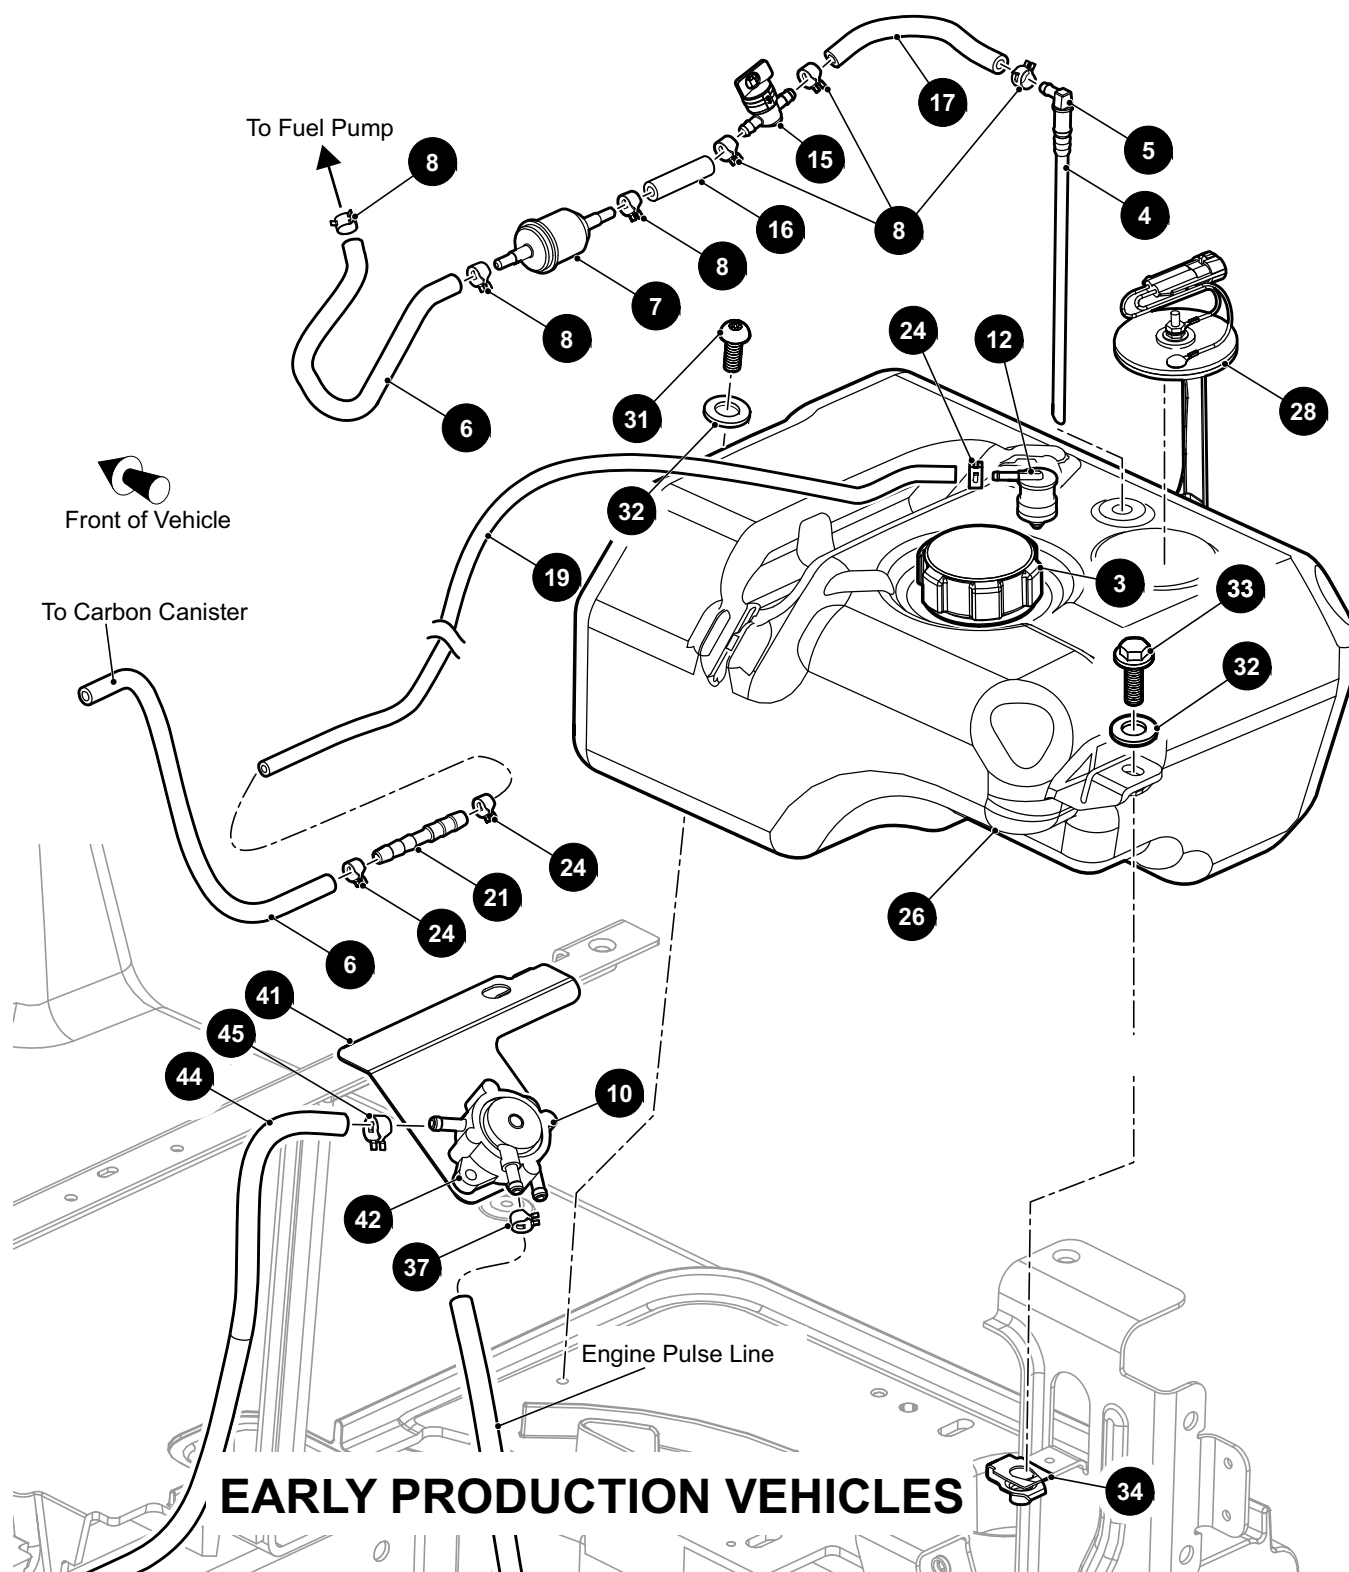
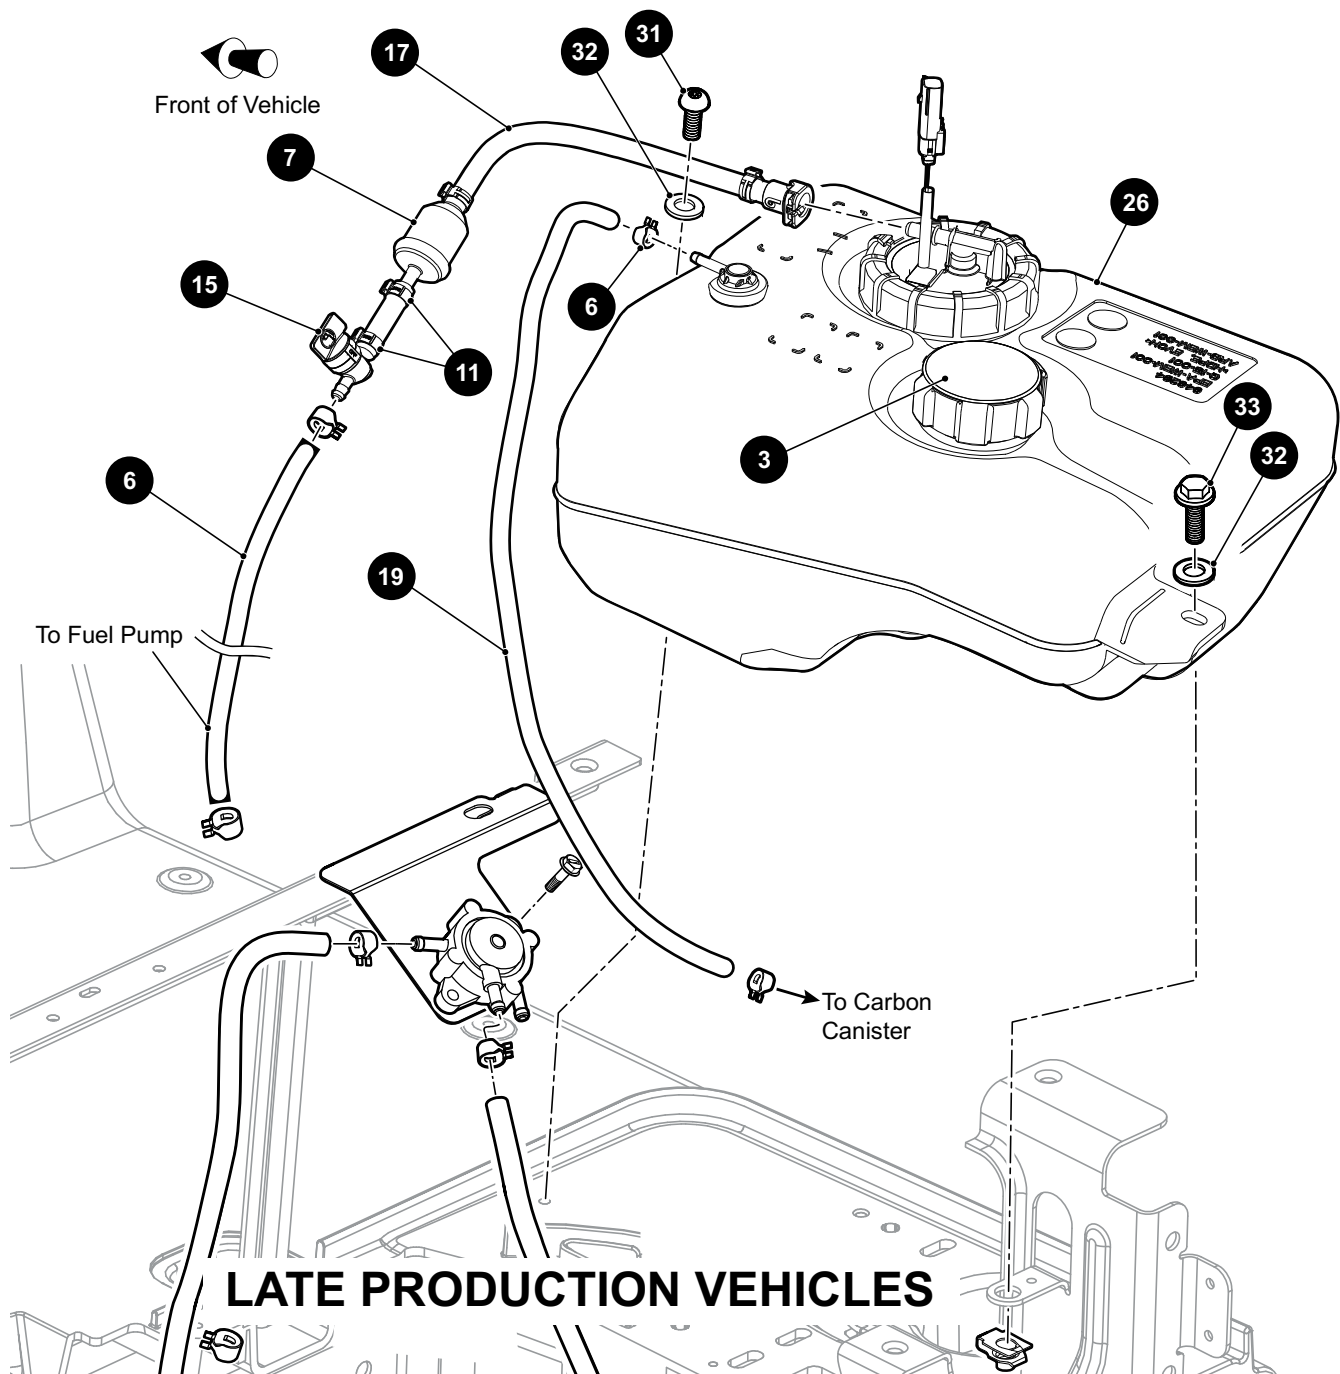

Figure 11 Fuel lines, fuel tank and filter
Figure 12 Fuel lines, fuel tank and filter
Observe and identify the supply and pulse hoses. Remove the hoses and plug the fuel lines (44). Remove the fuel pump (10) by removing the two screws that secure it to the bracket located on the seat support frame (Figure 11).
The fuel is supplied to the fuel pump (10, 26) and carburetor through flexible fuel hoses. An in-line filter (7, 13) is installed in the hose between the fuel tank (26, 3) and the fuel pump (10, 26) (Figure 11) (Figure 12).
Frequently check the fuel filter (7), tank (26), hoses (19, 6, 17) and cap (3) for leaks or signs that the cap vent or filter have become clogged (Figure 11). The filter must be replaced periodically.
Frequently check the fuel filter (13), tank (3), hoses (7, 5, 9) and cap (4) for leaks or signs that the cap vent or filter have become clogged (Figure 12). The filter must be replaced periodically.